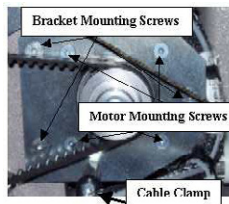

Figure 4 - Z-Motor Mounting Screws
- 12. Remove the bracket mounting screws as shown in Figure 4 above.
17. Mount the motor assembly to the upper arm as shown in Figure 4 above and tighten the screws to The torque specifications.
19. Attach the cable clamp to the z-motor lead (marked "CONTROL PCB Z MOTOR") and attach the cable clamp at the bottom of the z-motor mounting bracket as shown in Figure 4. Tighten the screw to The torque specifications.